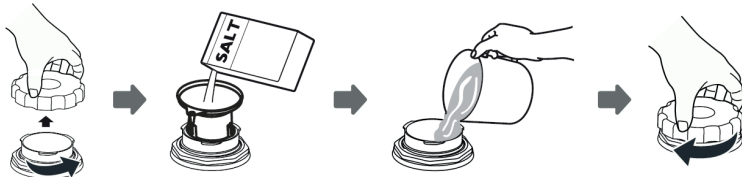

Fig. 1
1. Open the appliance door, remove the lower basket and proceed as shown in Fig. 1 below.